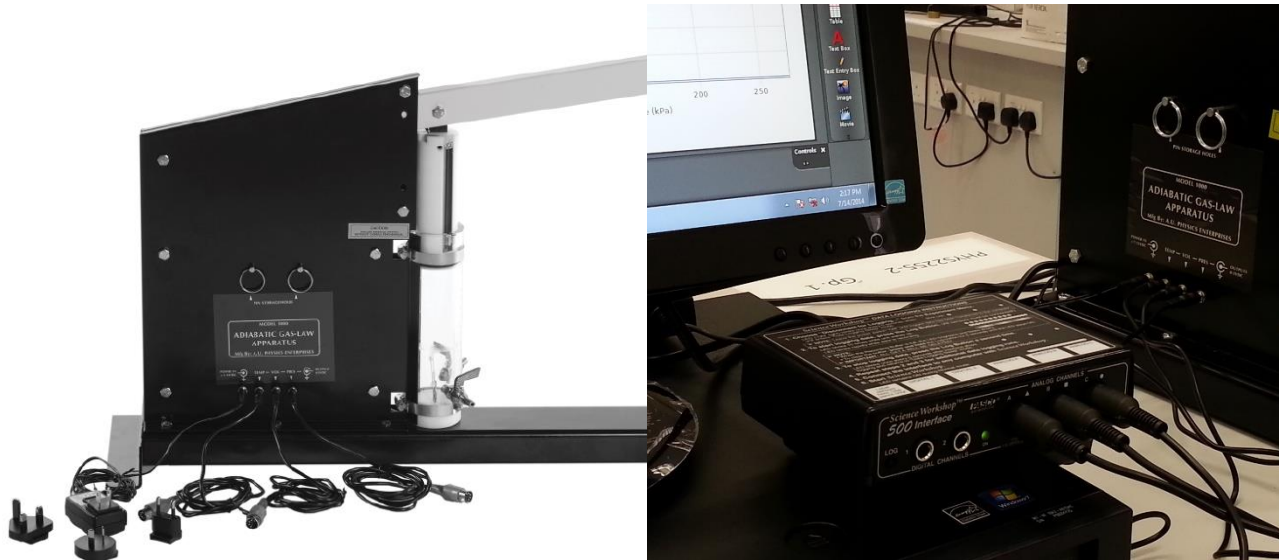

Figure 1 – Adiabatic Gas Law Apparatus
1. The Adiabatic Gas Law Apparatus (Figure 1) should have already been connected to *Science Workshop* 500 interface: the Pressure, Volume and Temperature din connectors are inserted into analog channels A, B and C of the interface, respectively.